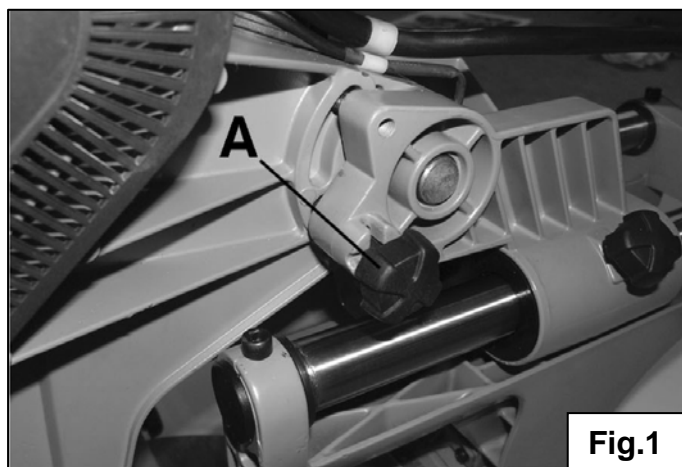

Fig.1
To release the arm, push it down, pull and turn the unlocking button **(A)** Fig.1.
1. Block the mitre saw's head in the low position, close the lock-knob in the transport position (see Fig.1).